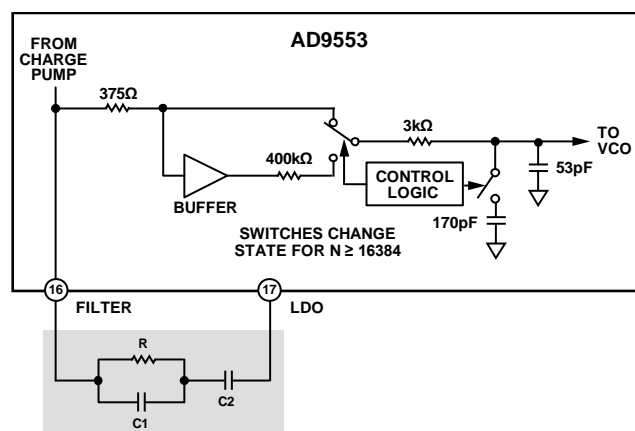

Figure 30. External Loop Filter
The PLL (see Figure 27) consists of a phase/frequency detector (PFD), a partially integrated analog loop filter (see Figure 30), an integrated voltage controlled oscillator (VCO), and a 20-bit programmable feedback divider. The PLL generates a 3.35 GHz to 4.05 GHz clock signal that is phase locked to the active input reference signal, and its frequency is the phase detector frequency (FPFD) multiplied by the feedback divider value (N).
The charge pump in the PFD delivers current to the loop filter (see Figure 30). The components primarily responsible for the bandwidth of the loop filter are external and connect between Pin 16 and Pin 17.